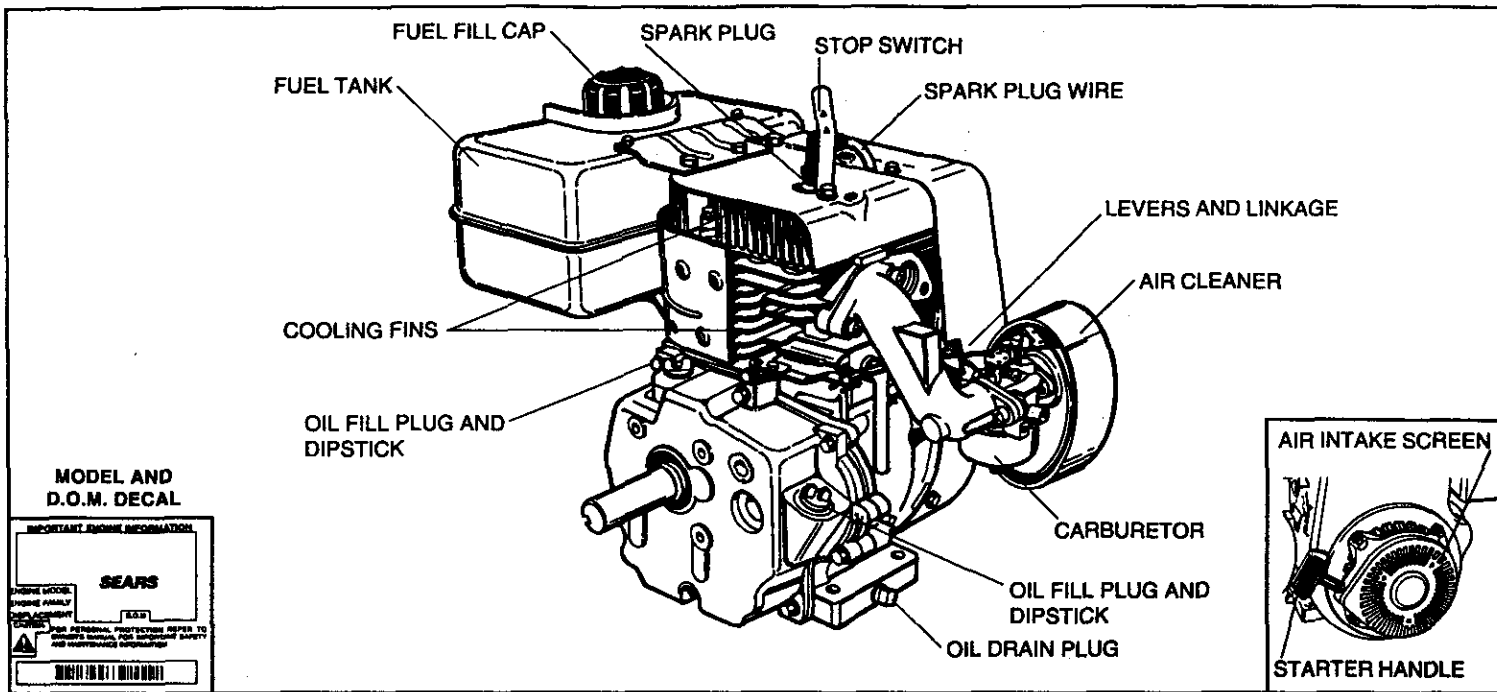

Figure 1
B. Clean area around oil fill plug (see Figure 1).
B. Be sure spark plug wire is attached to spark plug (see Figure 1).
C. Be sure stop switch (see Figure 1) next to spark plug is not contacting spark plug.
- ① Move equipment control or any ignition stop switch on engine to STOP or OFF (see equipment manufacturer's instructions).
- ② Push stop switch (see Figure 1) located next to spark plug on engine against spark plug and hold it in this position until engine is completely stopped.
- Position equipment so engine oil drain plug is lowest point on engine (see Figure 1).